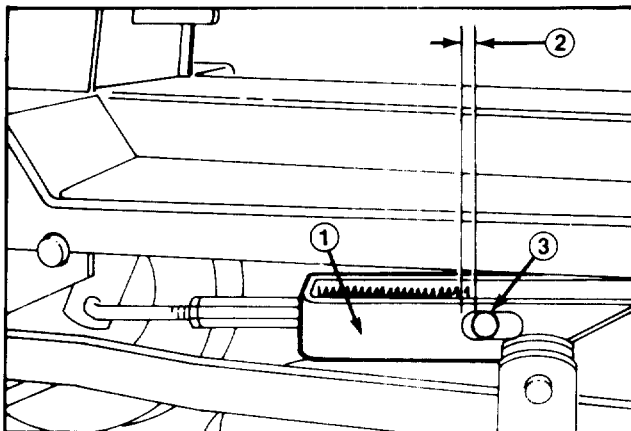

Figure 25
2. Loosen jam nut and turn adjusting hub until there is 0.060 inch (1.5 mm) or less between end of slot in engagement bracket and outer diameter of pin. Retighten jam nut at new hub setting (Fig. 25).